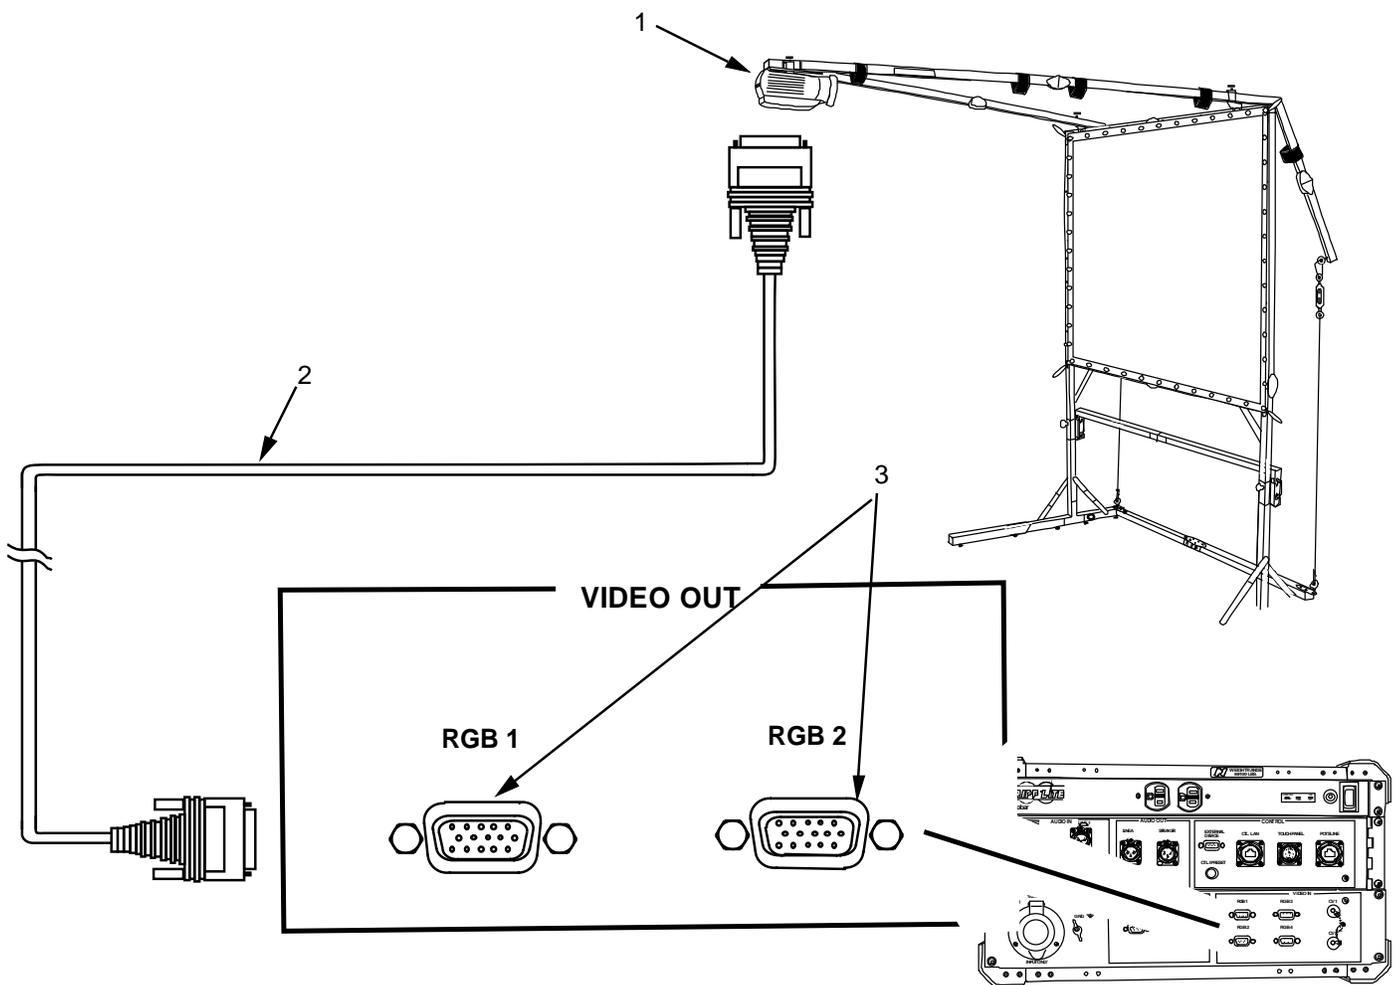

Figure 9. Connect Video Projector to AVCS (MINI) System.
2. Connect the HD-15 cable (Figure 9, Item 2) to the local display system (Figure 9, Item 1) video input connector.
5. Insert the cable connection into the RGB 1 or RGB 2 (Figure 9, Item 3) connector and tighten down the two screw locks to hold it in place.